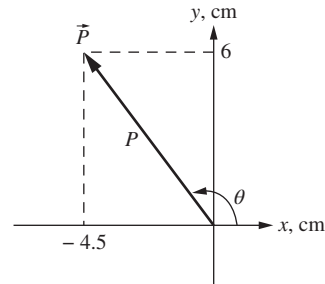

Figure P4.11 A position vector for problem P4-11.
- 4-11.** The x - and y -components of a vector \vec{P} shown in Fig. P4.11 are given as $P_x = -4.5$ cm and $P_y = 6$ cm. Find the magnitude and direction, and write the vector \vec{P} in its rectangular and polar forms.